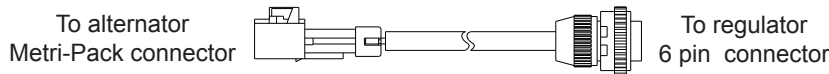

Figure 3: A9-4077 Adapter Harness
- a. Connect Metri-Pack connector on C626 regulator-to-alternator harness to A9-4077 adapter harness and connect other end of A9-4077 harness to 6 pin connector on A2-342 regulator. See Figures 3 and 5.